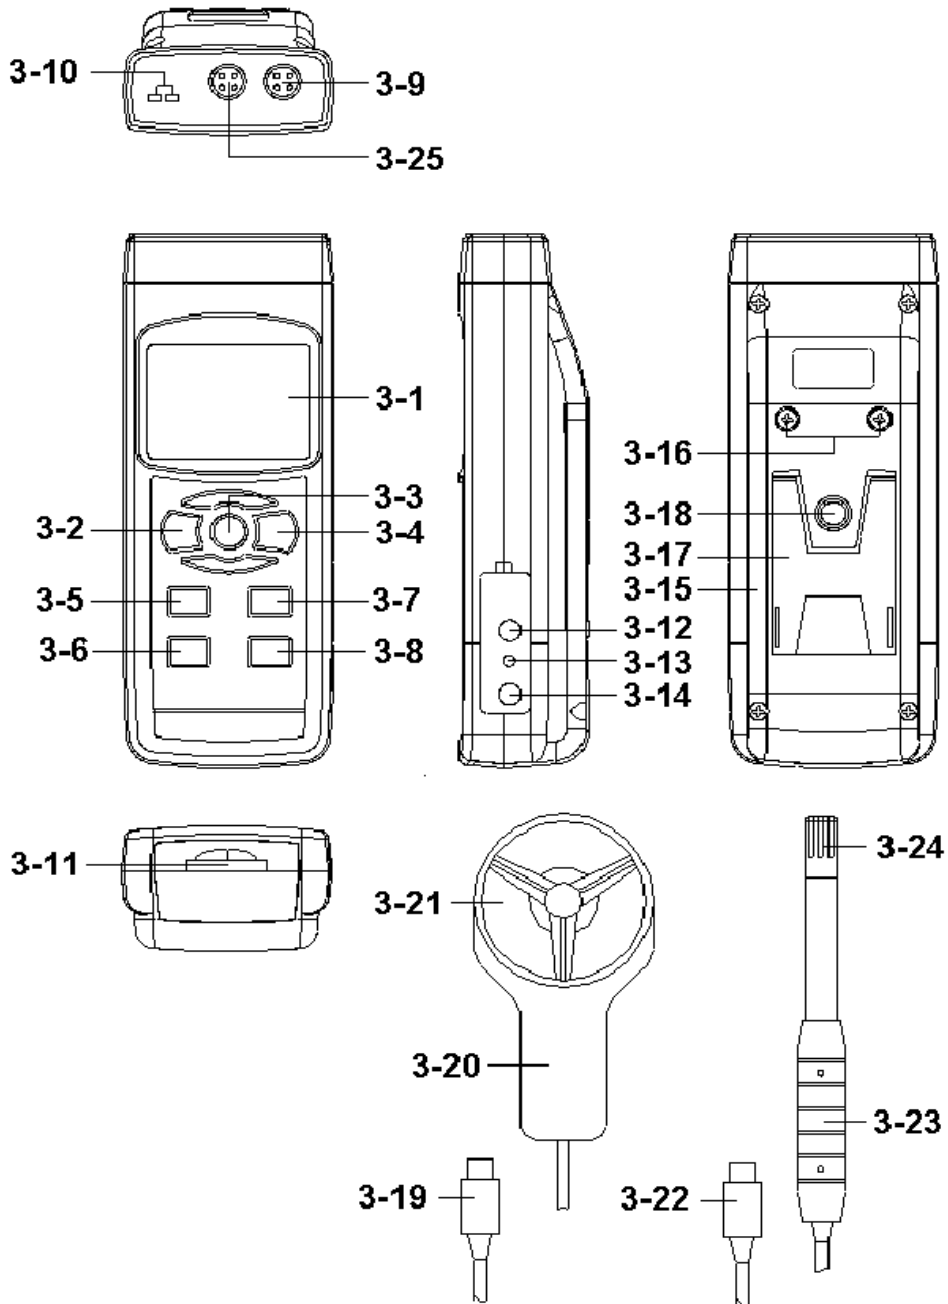

Fig. 1
1) Power on the meter by pressing the " Power button " ( 3-2, Fig. 1 ) > 1.5 seconds continuously.
Pressing the " Function Button " ( 3-7, Fig. 1 ) > 1.5 seconds continuously, the Display will show the following text in sequence :
Until the Display show the desired mode ( Function ), just release the " Function Button " ( 3-7, Fig. 1 ), the meter will execute this function with default.
- b. Plug the " Probe Plug " ( 3-19, Fig. 1 ) into the " Probe Input Socket " ( 3-9, Fig. 1 ).
- c. Hold the " Probe Handle " ( 3-20, Fig. 1 ) by hand and let the " Probe Head " ( 3-21, Fig. 1 ) face against the measuring air flow source, then the Display ( 3-1, Fig. 1 ) will show air velocity directly. At the same time, the lower Display will show the air temperature value.
- a. Plug the " Probe Plug " ( 3-22, Fig. 1 ) into the " Probe Input Socket " ( 3-25, Fig. 1 ).
- b. Plug the Thermocouple Temp. Probe ( Type K Temp. probe or Type J Temp. probe, optional ) into " Type K/J Probe Input Socket " ( 3-10, Fig. 1 )
During the measurement, press the " Hold Button " ( 3-3, Fig. 1 ) once will hold the measured value & the LCD will display a " HOLD " symbol.
- 1) The data record function records the maximum and minimum readings. Press the " REC Button " ( 3-4, Fig. 1 ) once to start the Data Record function and there will be a " REC " symbol on the display.
- a) Press the " REC Button " ( 3-4, Fig. 1 ) once, the " REC MAX " symbol along with the maximum value will appear on the display.
- b) Press the " REC Button " ( 3-4, Fig. 1 ) again, the " REC MIN " symbol along with the minimum value will appear on the display.
- c) Press the " REC Button " ( 3-4, Fig. 1 ) again, the " MIN " symbol will be appeared, LCD only show the " REC " symbol, the meter start the Data Record function again.
- 3) To exit the memory record function, just press the " REC Button " ( 3-4, Fig. 1 ) > 1.5 seconds continuously. The display will revert to the current reading.